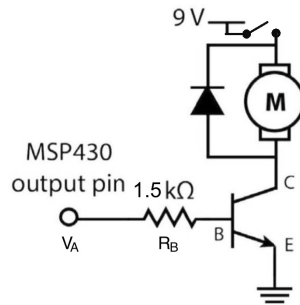
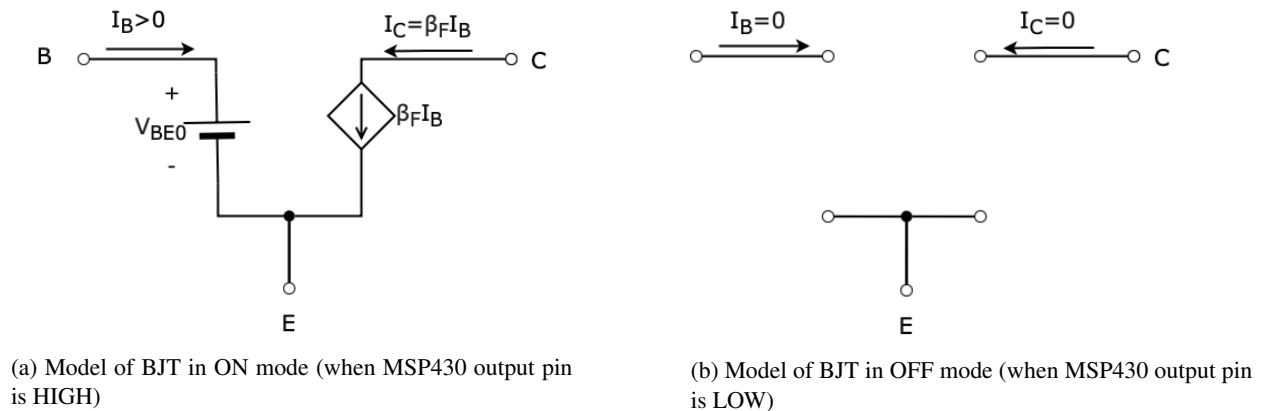

Figure 2: Motor Controller Circuits
Figure 3: Model of NPN BJT in Different Modes
The BJT in Figure 2 is switching between the **ON** and **OFF** modes when the MSP430 output pin V_A is HIGH (3.3V) and LOW (0V) respectively. The model for both ON and OFF states are shown in Figure 3. When the BJT turns on, V_{BE} can be modeled as a fixed voltage source between the Base and Emitter terminals with a voltage value of V_{BE0} , which is usually between 0.6V to 0.8V. In ON mode, there is a **Current Controlled Current Source** modeled between the “Collector (C)” and “Emitter (E)”, i.e., current at the “Collector (C)” is an amplified version of current at the “Base (B)” (notice that I_B has to flow into the “Base (B)” for the relation $I_C = \beta_F I_B$ to hold.) β_F is called the **Common-Emitter Current Gain**. When the MSP430 output pin V_A is HIGH (3.3V), the voltage across the resistor R_B in Figure 2 is $V_{HIGH} - V_{BE0}$. So we can calculate the current flowing into the “Base (B)”, I_B , and the current flowing into the “Collector (C)”, I_C , as
From equations above, we know that the resistor in the motor controller circuit (Figure 2) is used for defining the current flow through the MSP430 output pin, BJT, and motor. Therefore, we should carefully choose the value of the resistor considering the maximum current that BJT and MSP430 pin can handle and the current required to drive the motor. As we increase the value of the resistor, the current into the “Base (B)” decreases, which in turn reduces the current flow through the motor, slowing down the motor rotation.